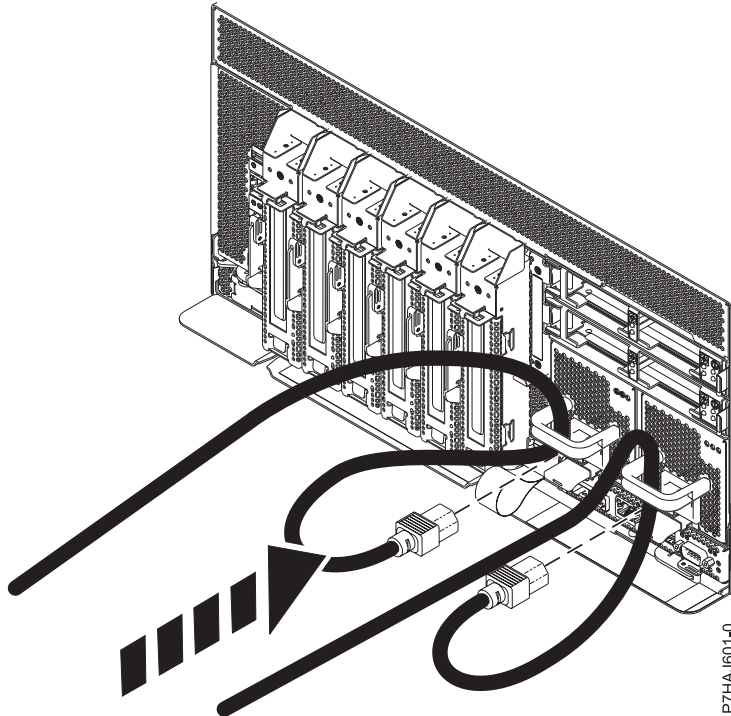

Figure 61. Connecting the power cords
2. Reconnect the power cord to the system unit as shown in Figure 61 on page 119. Ensure that the cords are threaded through the handles.